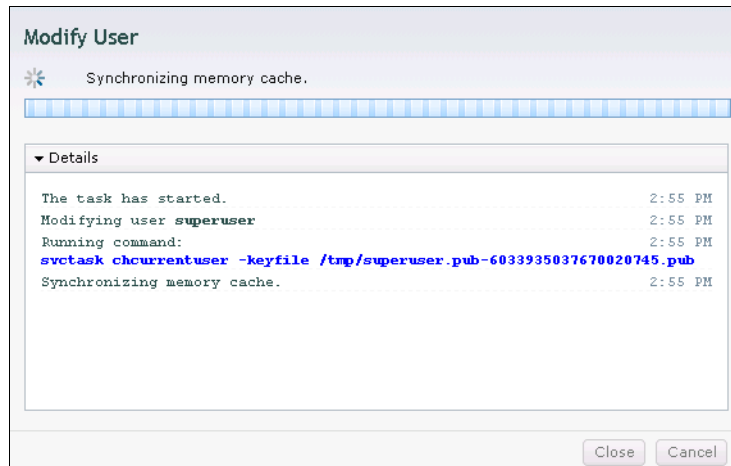

Figure A-9 Public key upload complete
4. Click **OK** and the key is uploaded (Figure A-9).